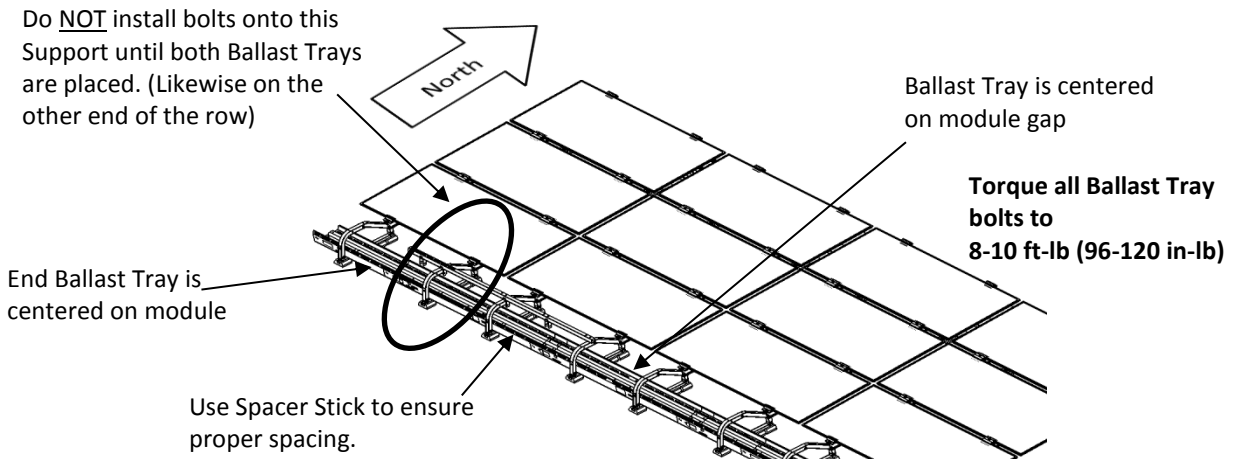

Figure 11 Attach Ballast Trays to Supports
3.17. Install Ballast Trays to the pre-installed rivet nuts on the second row of Supports by centering each Ballast Tray between two modules. For end of row Ballast Trays install the tray centered on the module. The Ballast Tray may be shifted east or west to align with the closest slots. All ballast trays must be secured to two supports. Use the Spacer Stick to ensure the high side of the Supports is properly spaced. Thread a Bolt into each of the pre-installed Rivet Nuts and torque to 8-10 ft-lb (96-120 in-lb). (Figure 11)